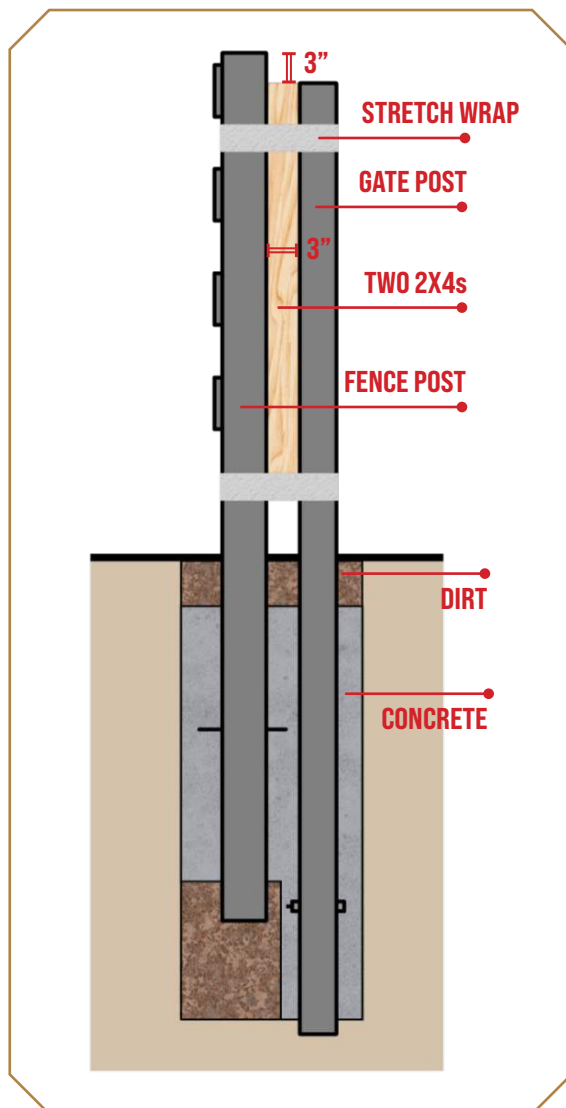

Figure 3
2. Set the gate post assembly in the hole with a 3" gap to the existing end post. Plumb and square the gate post using two 2x4s which will equal 3 inches total in width (Figure 3). Use stretch wrap around the gate post, fence post, and 2x4s to temporarily hold them together.